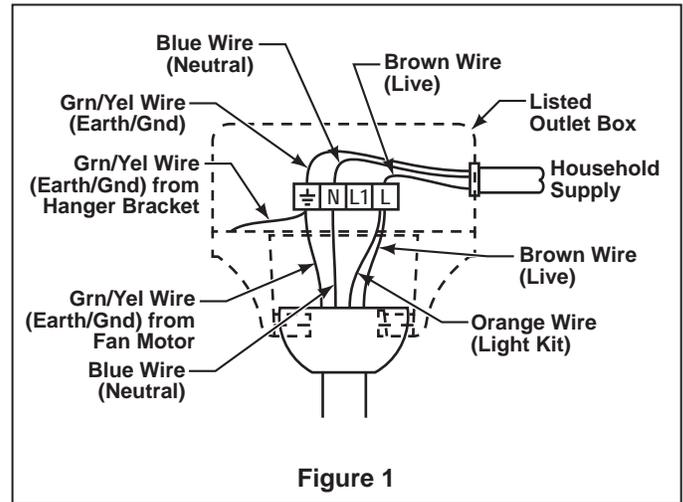

Figure 1
2. Securely connect the blue fan motor wire to the blue supply (neutral) wire using wire connector supplied. Securely connect the brown fan motor wire and orange wire to the live supply (normally black but marked as a live supply with red sleeving) (Figure 1). Make sure all connections are secure.